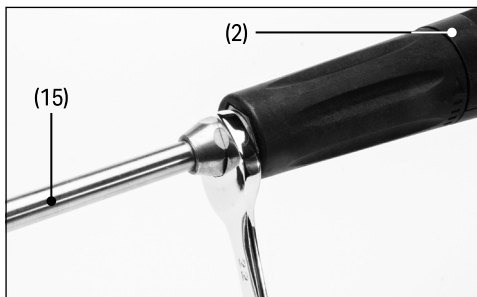
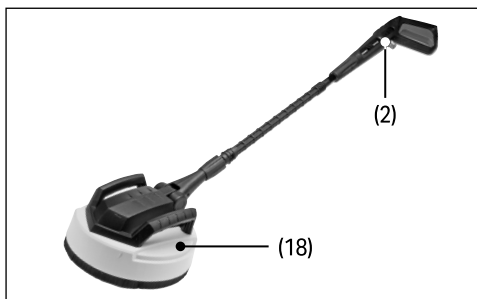

Fig. 20
Fig. 21
- Remove the metal lance (15) from the trigger assembly (2).
- Then fit the brush (16) to the trigger assembly, push in and turn to lock securely in place.
7.6 Patio Cleaner (Fig.20 – Fig.21)